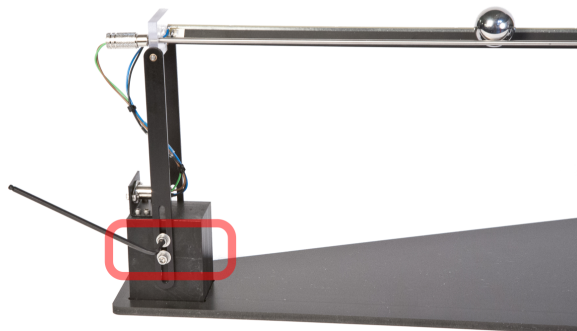

Figure 4.5: Tighten 4x screws on column to fix the height
8. Tighten the 4x screws on the support arm, as illustrated in Figure 4.5, to finalize the calibration of the Ball and Beam.